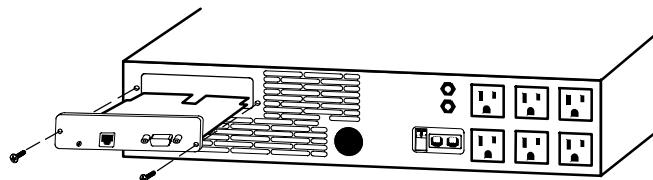

Figure 6. Installing the ConnectUPS-MX Module
2. To prevent electrostatic discharge (ESD), place one hand on a metal surface such as the UPS rear panel. Align the ConnectUPS-MX Module with the slot guides and slide the module into the slot until it is firmly seated (see Figure 6).